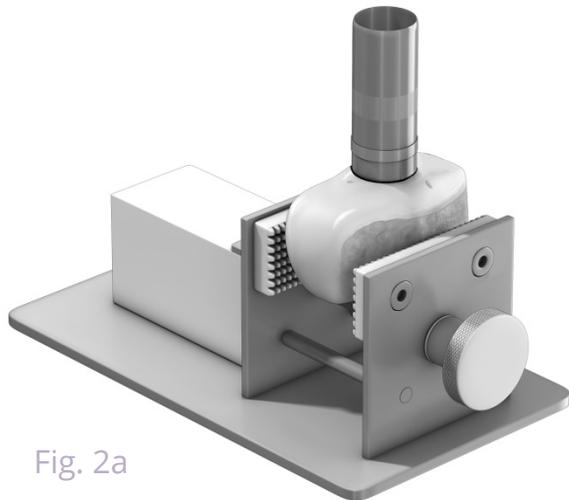

Fig. 2a
**Step 5:** Place the cutter/guide on the allograft at the corresponding location of the patient's condylar defect. It is imperative to contact the articular surface throughout the circumference of the cutter/guide. Place a guide pin (blunt side down) over the center of the area corresponding to the location of the patient's condylar defect. Compare the angle and location of the pin to the one previously placed in the patient's condyle. Make orientation adjustments to ensure conformity (Fig. 2a). Trace the entire circumference with a marker.